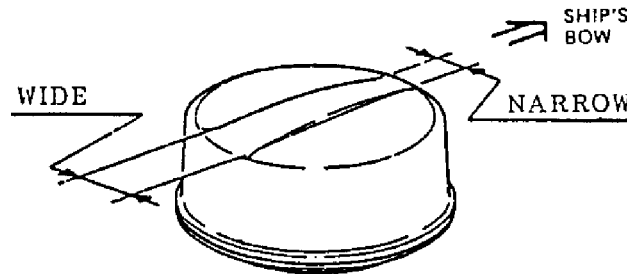

Figure 6-8 Radome Cover Placement
6. Put the radome on the radome base assembly, taking note of that the narrower recessed part should face in the direction of the bow. See Figure 6-8.